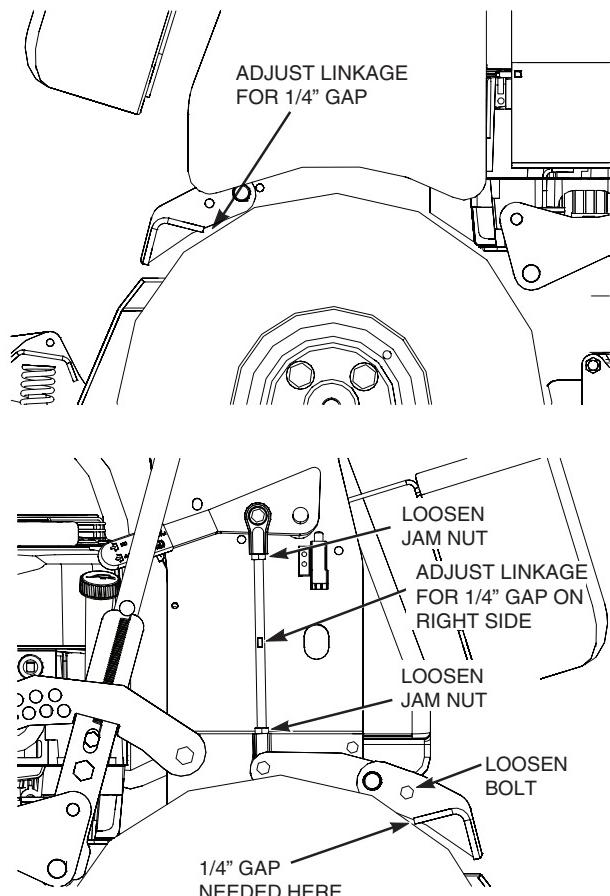

Figure 6-1. Brake Adjustment
- Look for a gap (approximately 1/4") between the right side drive tire and the brake bellcrank. See Figure 6-1. Loosen the jam nuts and adjust the brake linkage rod until the there is a 1/4" gap between the tire and right hand brake bellcrank. The right hand side must be adjusted first before adjusting the brake weldment on the left side.